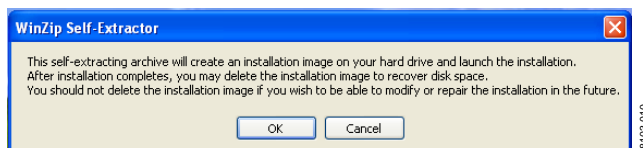

Figure 10. Labview Winzip Self-Extractor
1. Double-click the **LabVIEW_Runtime_Engine.exe** file. When the box shown in Figure 10 appears, click **OK** to continue.